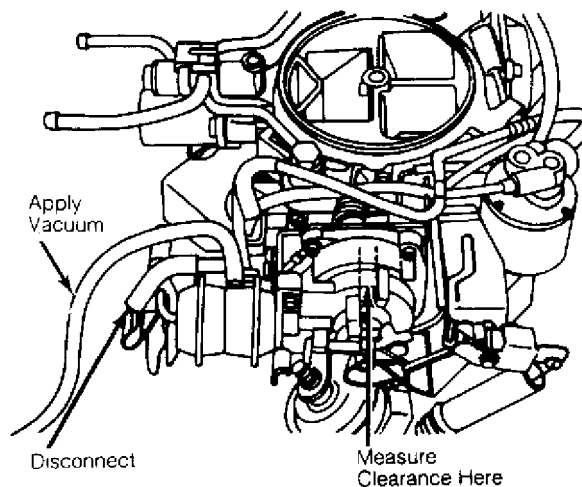

Fig. 4: Choke Valve Opening Angle Adjustment
1) Disconnect both vacuum sensing tubes from No. 1 vacuum diaphragms. Pull choke lever link out fully and hold in place. Apply more than 19.7 in. Hg to inner diaphragm. See Fig. 4.